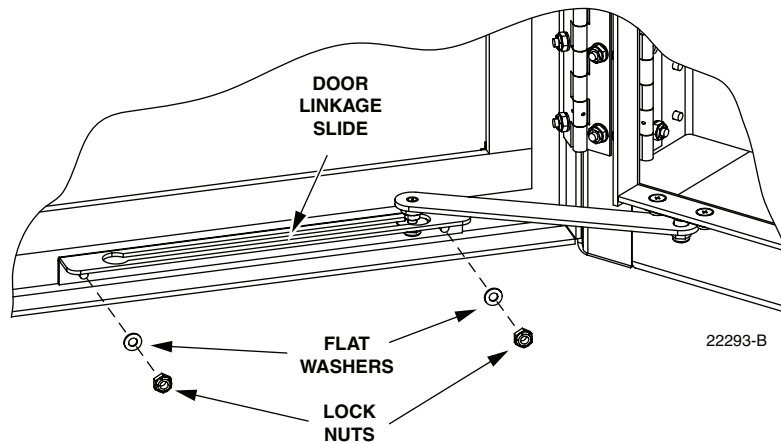

Figure 42. Door Linkage Hardware
18.6.2 Use a 3/8-inch nut driver and wrench to remove the locking nuts and washers that secure the door bracket slide to the bottom edge of the door as shown in Figure 42. Save the nuts and washers for reuse.